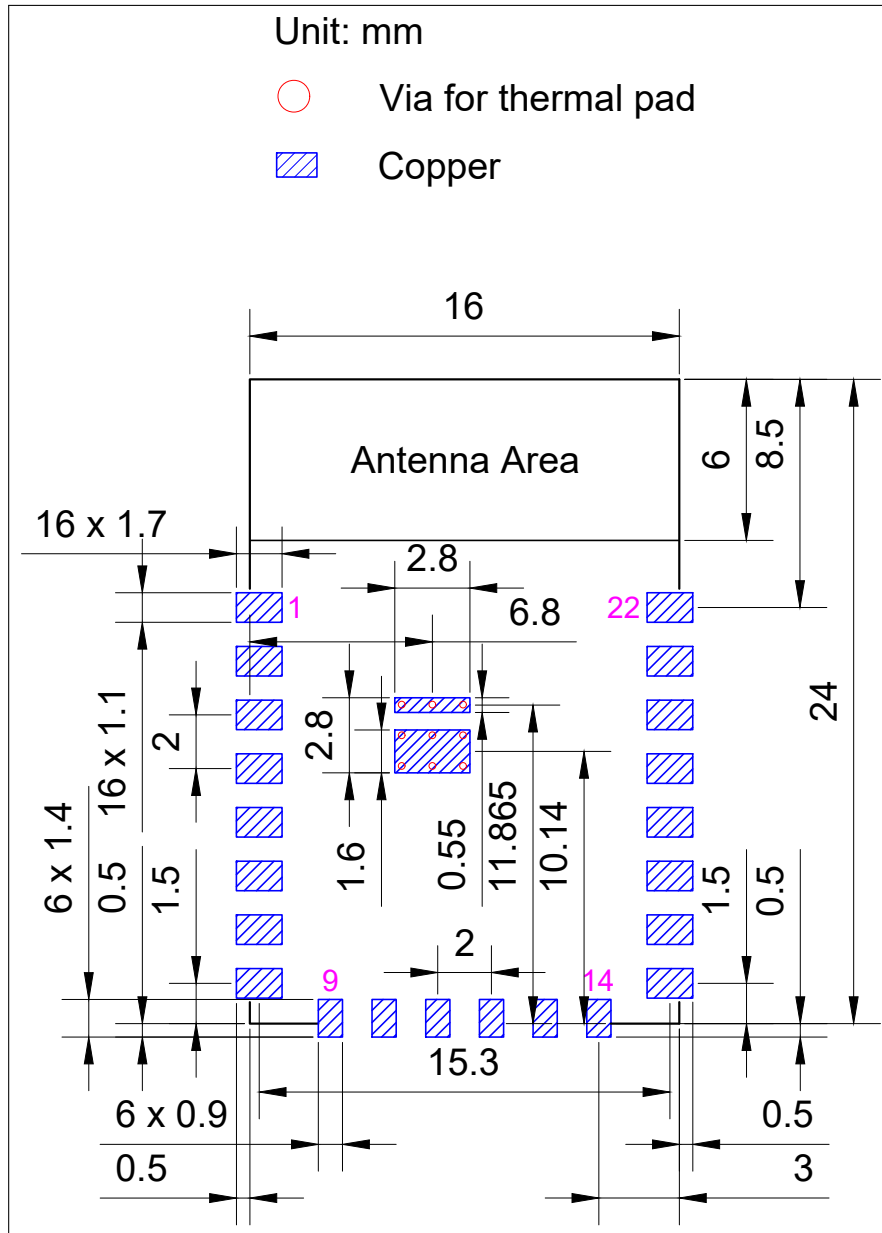

Figure 7: Recommended PCB Land Pattern
- Figure for the recommended PCB land pattern with all the dimensions needed for PCB design. See Figure 7 *Recommended PCB Land Pattern*.
- Source file of the recommended PCB land pattern to measure dimensions not covered in Figure 7. You can view the source files for ESP8684-WROOM-04C with Autodesk Viewer.